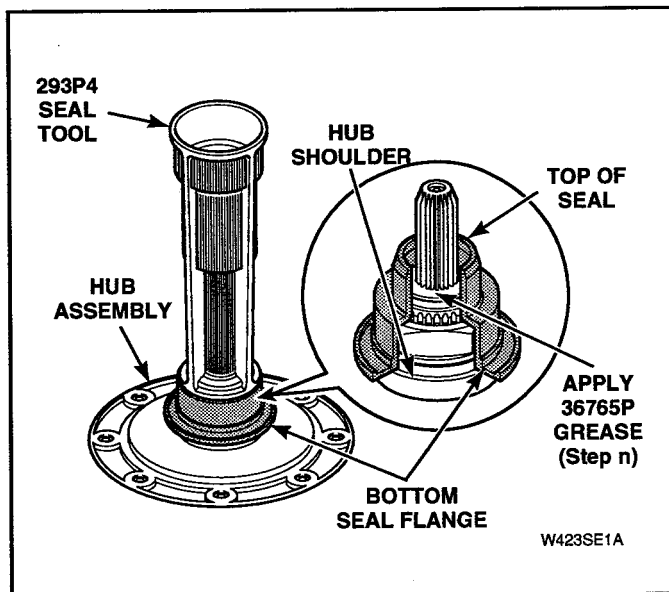

Figure 5-15
- Apply remainder of supplied grease, No. 36765P, to exposed surface of washer between transmission output shaft and seal. See Figure 5-15.
- p. Turn the No. 293P4 Seal Tool upside-down and place the small end over transmission output shaft and onto the seal. See Figure 5-15.
- q. Push down on tool with a quick motion until it bottoms out and the top of seal is fully seated. See Figure 5-15.